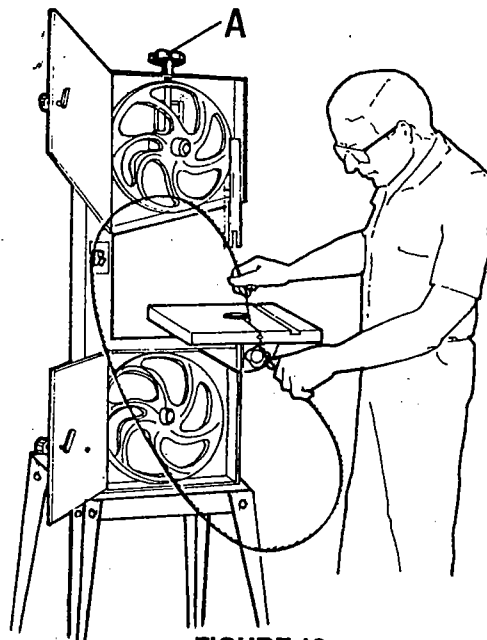

FIGURE 13
2. Release tension on the band saw blade by turning the blade tension handle A, Figure 13, counterclockwise.